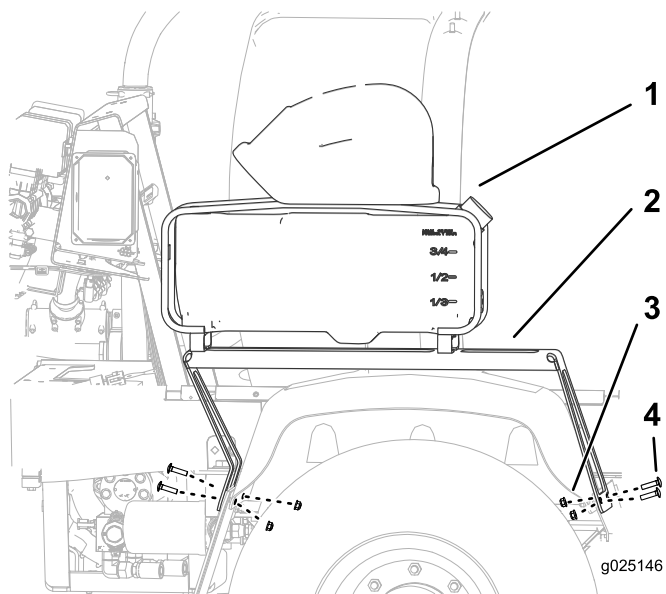

Figure 3
2. Attach the bracket to the machine using the 4 bolts (5/16 inch) and 4 nuts (5/16 inch) as shown in Figure 3.